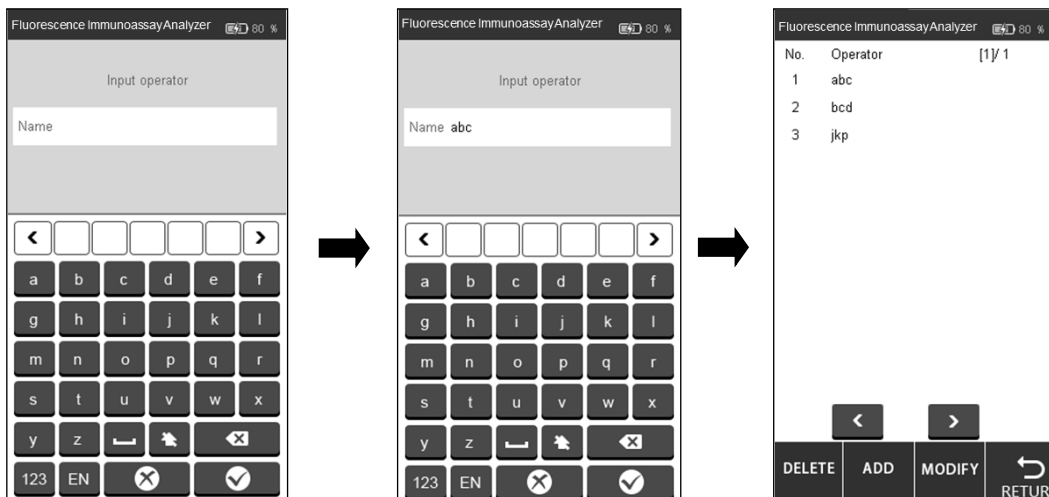
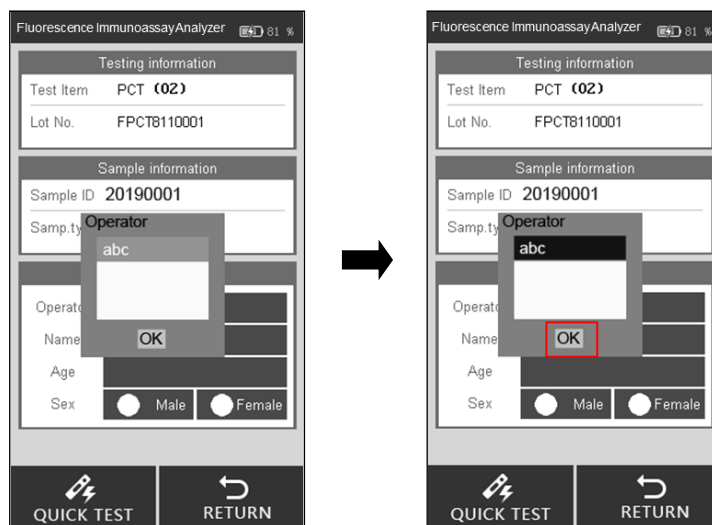

Fig 15
Fig 28
Click “**ADD**”, key in the operator name, click  to complete the adding. (Ref Fig 15)
Click the operator which needs to be deleted or modified, and the color will be changed to blue. Click “**DELETE**” the selected operator will be deleted, click “**MODIFY**” to enter the interface as Fig 15.
Step 5: Fill the information of patient, such as operator, patient name, age and gender. Tap the area besides operator, the interface will appear as Fig 28. Select the Operator. Feeding in Operator's Information is explained with Fig 15 in section 5.1.1.